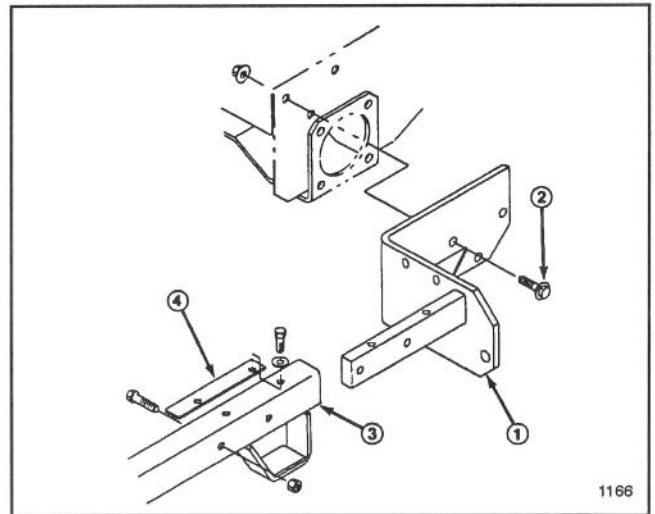

Figure 2
2. Align carrier frame mounting holes with mounting holes in angle brackets, while positioning shim between top of angle bracket and carrier frame and align mounting holes (Fig. 2).